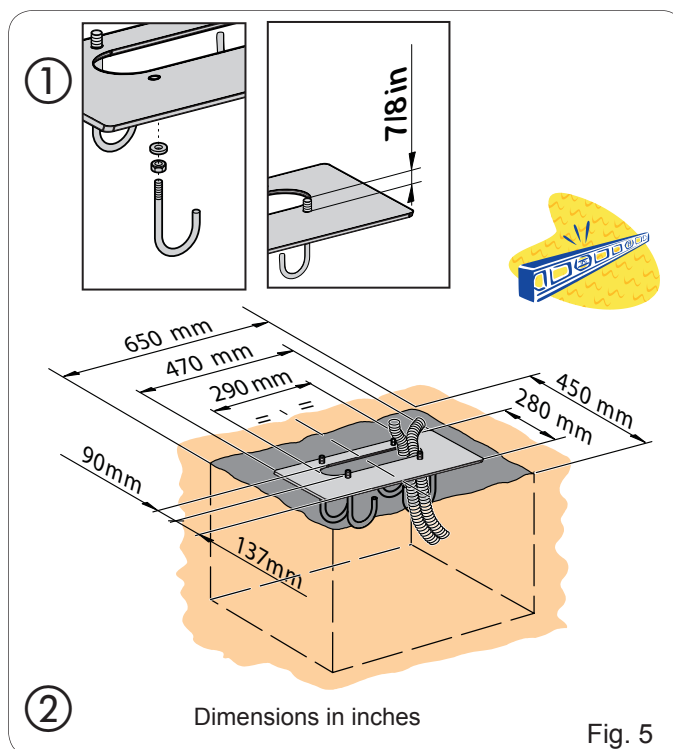

Fig. 5
- Assemble the foundation plate as shown in Fig. 5 ref. ①
- Build a concrete pad as shown in Fig. 5 ref. ②
- Set the foundation plate as shown in Fig. 5 ref. ② providing for one or more conduits for the passage of the electrical cables.
For dimensional reasons, the cable conduits must be placed on one side of the space provided at the base of the barrier (see Fig. 5).